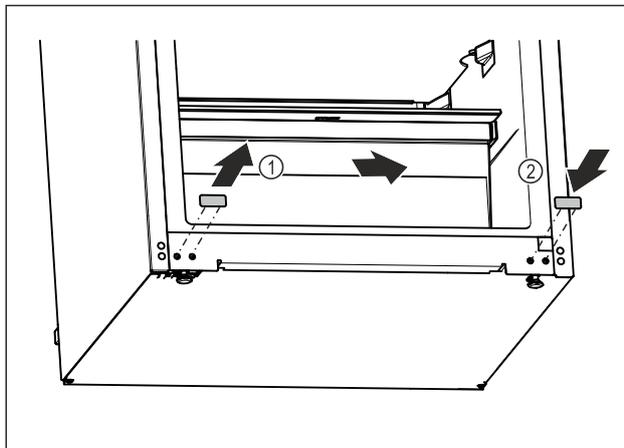

Fig. 13
- ▶ Pull out the cover plug. Fig. 13 (1)
- ▶ Insert the cover plug on the opposite side. Fig. 13 (2)